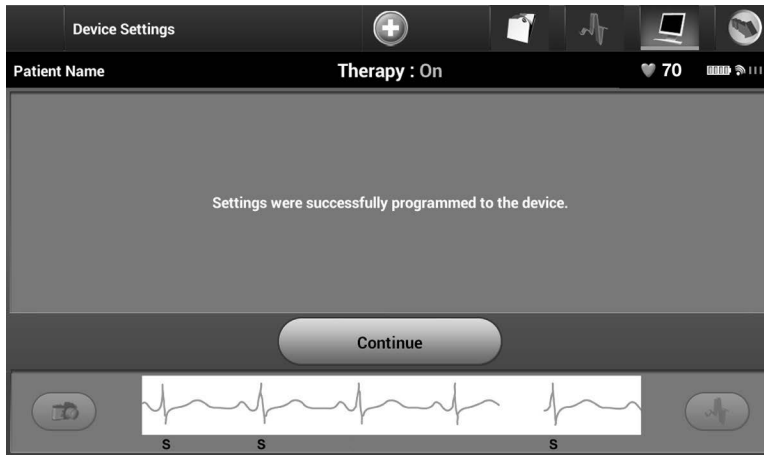

Figure 31: Confirmation of programming
7. Select the Program button to apply the changes and program the SQ-RX device. A screen will appear to confirm that the SQ-RX device settings were programmed (Figure 31). If the SQ-RX device does not accept the SQ-RX device programming, a Program Device alert screen will appear. Select the Try Again button to return to the Device Settings screen.